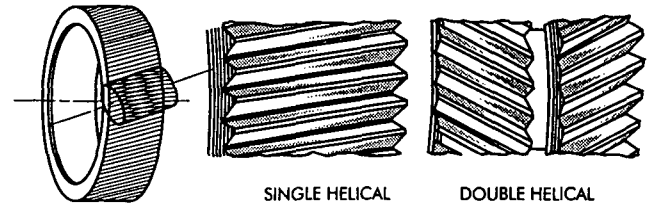

Figure 23B — MISALIGNMENT AT RIGHT ANGLE TO THE PLANE OF CENTERS
If Contact Left and Contact Right are not equal, one end of the pinion is at a different elevation than the other. See Figure 23B, Misalignment at Right Angle to the Plane of Centers. The difference between the Contact Left and Contact Right readings should be as close to zero as possible without exceeding the allowable difference (A) calculated above.
If Contact Left and Contact Right are not equal, one end of the pinion is at a different elevation than the other. See Figure 23B, Misalignment at Right Angle to the Plane of Centers.